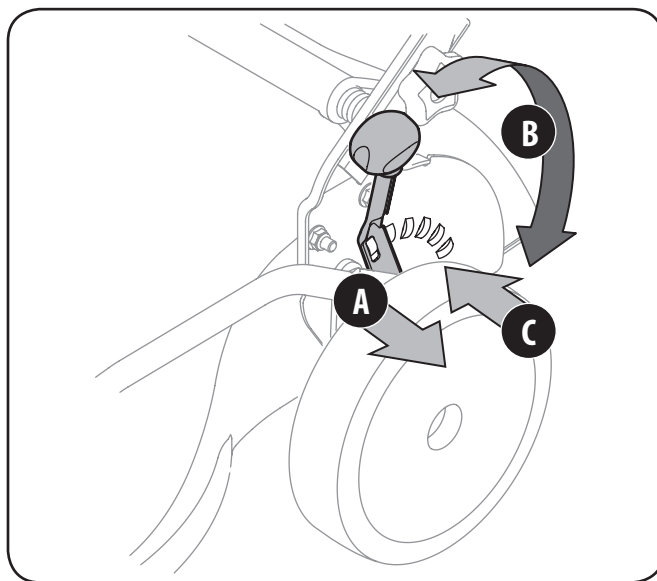

Figure 3-8
1. The cutting height adjustment lever is located above the rear left wheel. See Figure 3-8.